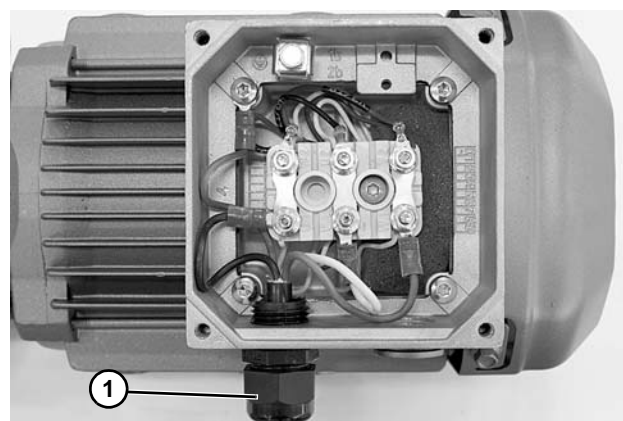

Figure 10
- Install cord grip and power cord (**Figure 10, item 1**) mount to terminal box as required.